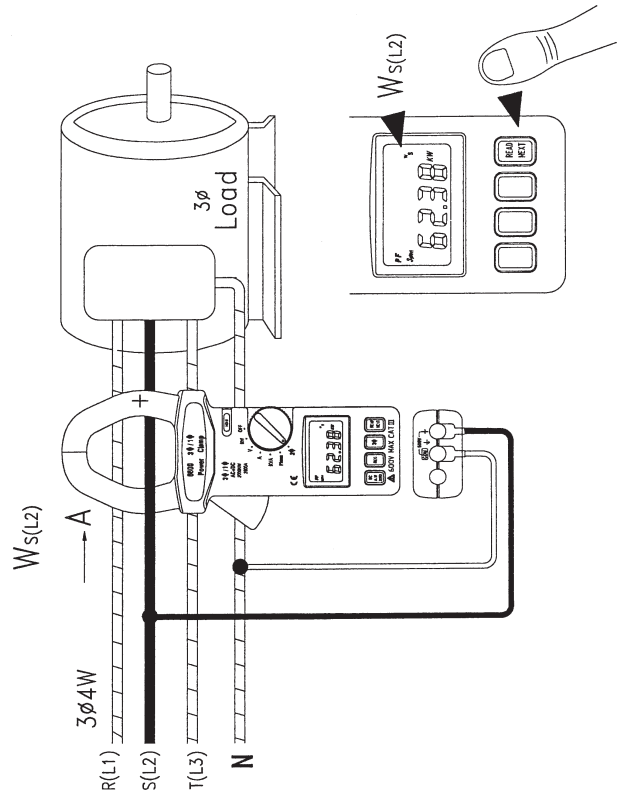

Fig.8
3.7.3. Secondly, measure W_{ST} , (or W_{L2L3}) (refer to figure 8).